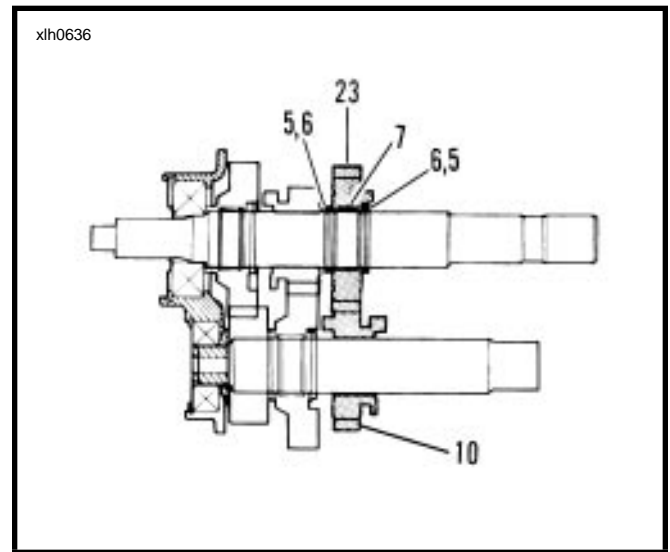

Figure 6-32.
10. See Figure 6-32. At mainshaft, install retaining ring (5) and thrust washer (6). Install split bearing (7) in seat next to thrust washer (6).
11. Install mainshaft 3rd gear (23) onto shaft over bearing (7).
12. Install thrust washer (6) and retaining ring (5) next to gear (23).
13. Install countershaft 3rd gear (10) onto shaft.